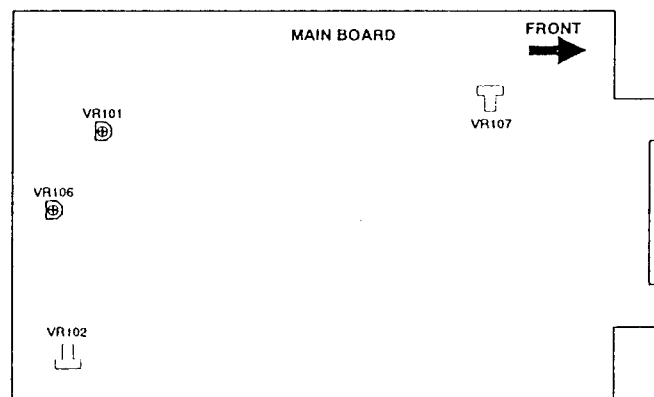

Figure 4-1 Location of on Mainboard
1. Input a cross hatch pattern in primary mode and adjust VR101 on the main board (see figure 4-1 for approximate location) so the high voltage is in the range $26\text{kV} \pm 0.1$.